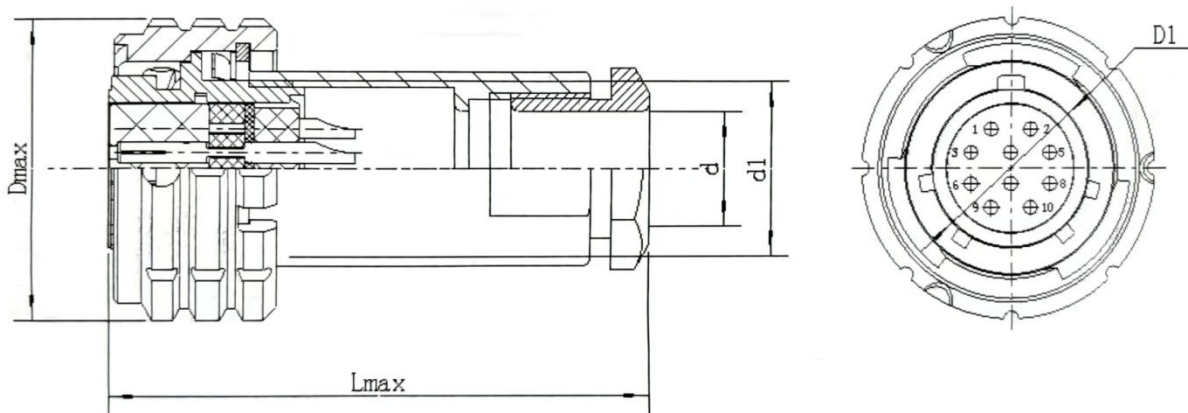

Figure 2. The hole group arrangement for ZH127-1-10/14-P3-1-B is shown as an example
- The overall dimensions of ZH127 series plugs with P3 tail attachment are shown in the table below Figure 2. The hole group arrangement shown in Figure 2 takes ZH127-1-10/14-P3-1-B as an example.